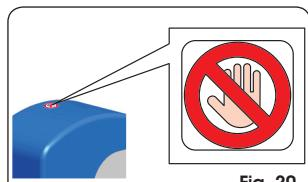

Fig. 20
- Apply the danger sticker on the top of the cover (Fig. 20).